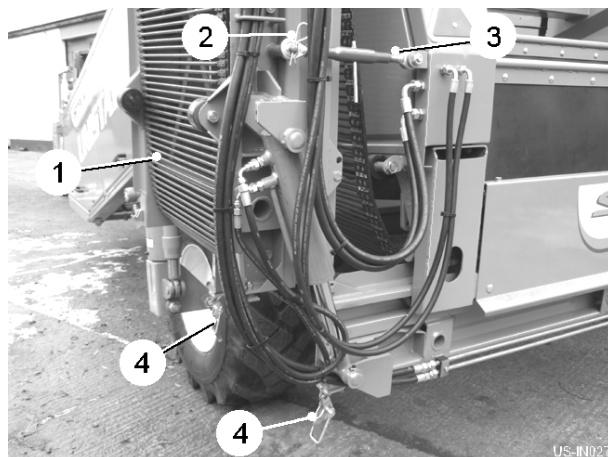

Fig 12
The LH side of the cross conveyor (item 1, fig 12) can be folded vertically to reduce the width for transport and storage.
1. Remove the 'R' clip (item 2, fig 12) securing the transport lock top link (item 3, fig 12) and allow it to hang freely.
3. Refit the transport lock top link (item 3, fig 12) and secure with the 'R' clip (item 2, fig 12).